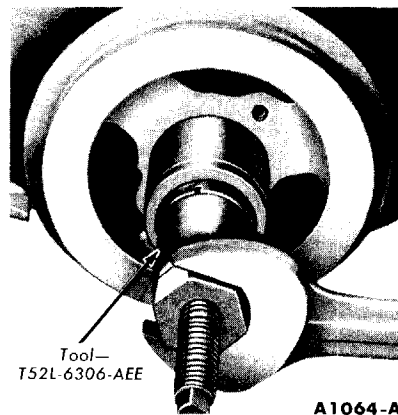

FIG. 19—Damper Installation
2. Align the damper keyway with the key on the crankshaft, then install the damper on the crankshaft (Fig. 19).